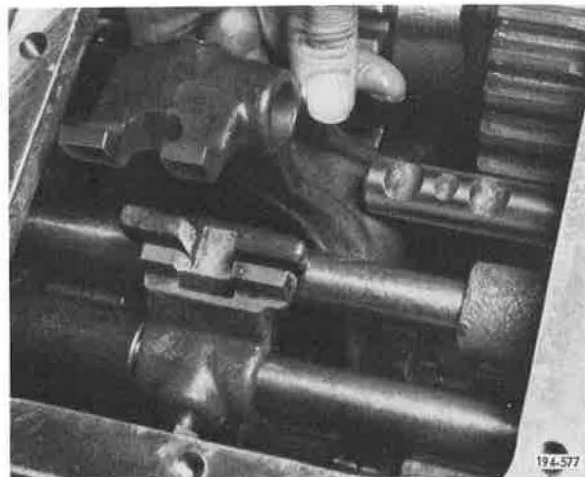

Figure 5-238. Sliding Shift Rail Forward
17. Slide fourth/fifth speed shift rail forward, and at the same time remove fourth/fifth speed shift fork. See Figures 5-238 and 5-239.